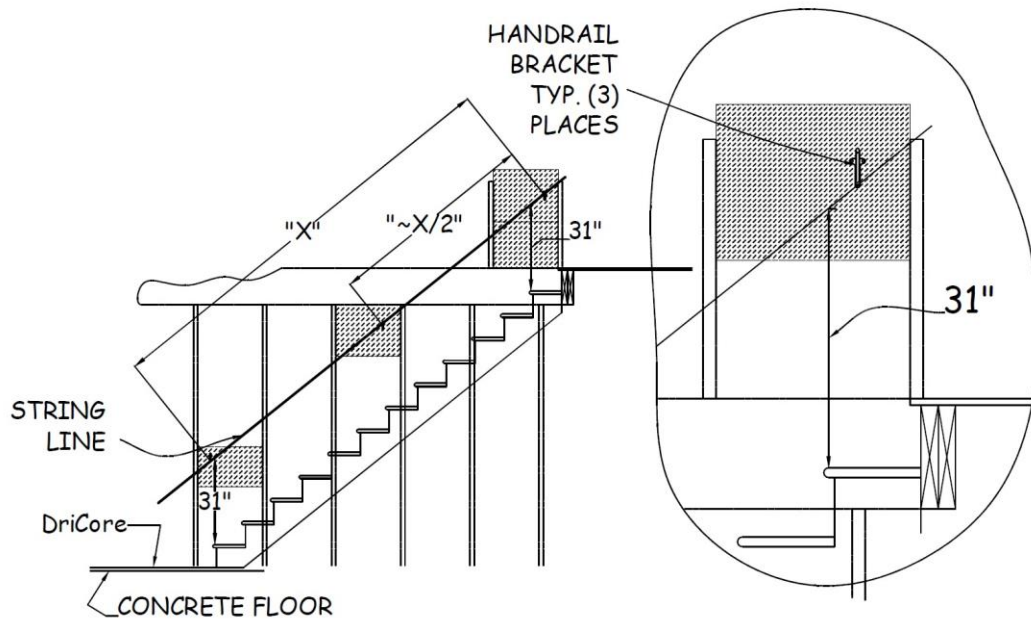

Figure 16-2. Handrail Bracket Installation.
4. Along this line, first mark the wall for locations of the top and bottom handrail brackets. Locate the top bracket 10-12" from the top end of the stairway wall and the bottom bracket 10-12" from the bottom end of the stairway wall, or from door trim if present (see Figure 16-2). Check for blocking or stud with an 8d or 2½" finish nail.
NOTE: Blocking has been installed for the handrail at the top, middle, and bottom of the stairs (see Section 10.5.5 and Figure 16-2).
angle of the template is correct, use it to mark for cutting. If not, use the adjustable bevel angle established above. This will establish Point 1 (see Figure 16-2).